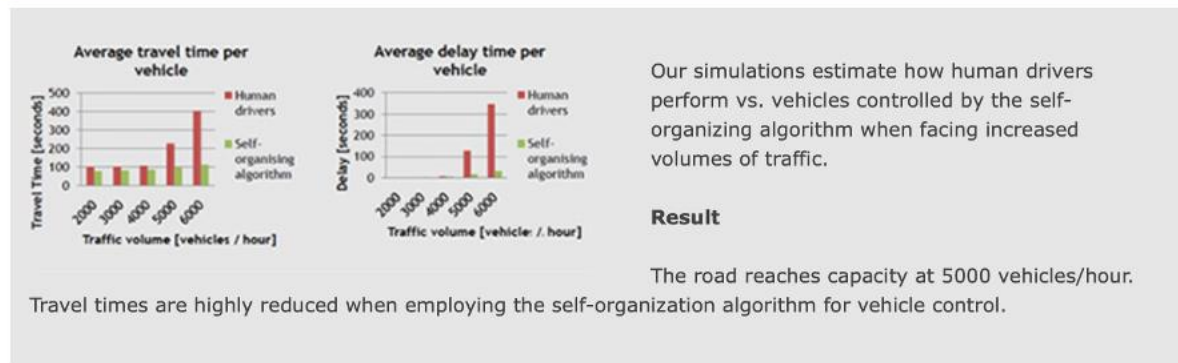

Figure 2: Simulation Results as shown on the TCD Project Website
2. What is the optimum throughput N_{opt} in cars/hours when the average traveling time is 20% longer than t_{opt} . (The Trinity Study seems to indicate a value of $N_{opt}=4000$ cars/hours, see Fig.2 below)
3. What is the maximum throughput N_{cong} in cars/hours when the motorway is heavily congested, but the traffic is still flowing? We define traffic as congested, when the average travelling time t_{cong} is twice the optimal average travelling time t_{opt} . (The Trinity study seems to indicate a value of $N_{cong}=5000$ cars/hours, see Fig.2 below)